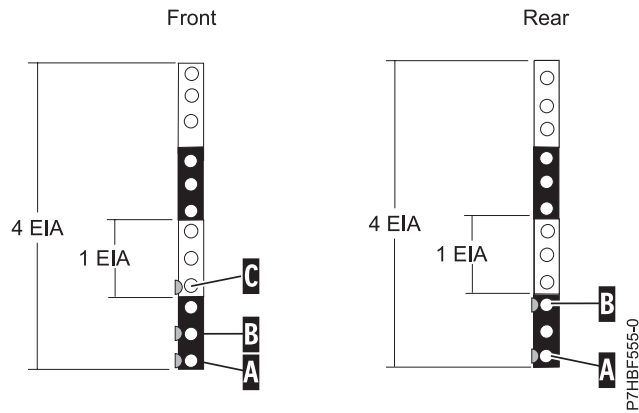

Figure 2. Marking holes on the front and rear of the rack frame
2. Beginning with the hole identified by mark **A**, count up one hole and place a second mark **B**. Mark the rack so the mark can also be seen from the rear of the rack, as shown in Figure 2.
3. Beginning with the hole identified by mark **B**, count up two holes and place a third mark **C**, as shown in Figure 2.
7. Beginning with the hole identified by the mark **A**, count up two holes and place a second mark **B**, as shown in Figure 2.